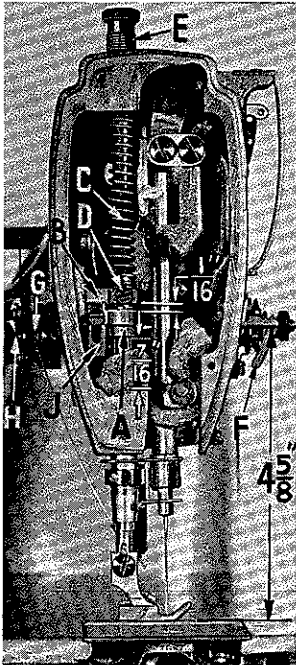
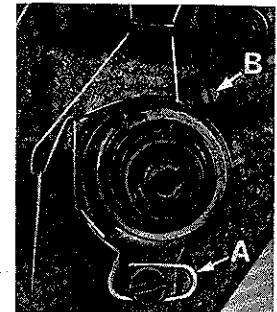

Fig. 16B
Fig. 18A
The presser bar connection (A, Fig. 16B) should be set so that it is about $\frac{7}{16}$ inch above the lower presser bar bushing (Fig. 16B). This is accomplished by tipping the machine back against the rest pin, loosening the lock nut (A, Fig. 15 - Cat. No. 126 M) and relocating the stop screw (B) on the lifter lever bell crank (C). By turning the stop screw to the right or left, the proper setting of the presser bar connection is accomplished. Tighten the lock nut (A) to lock the stop screw in place.
When locating the presser bar guide (B, Fig. 16B), the presser foot must rest directly against the throat plate with the feed dog in its lowest position. The guide is set properly when there is a $\frac{1}{16}$ inch space between guide (B) and presser bar connection (A, Fig. 16B).
Set the needle thread take up wire (F, Fig. 16B) so that the underside of the wire is $4 \frac{5}{8}$ inches above the throat plate.
1. Set the tension assembly so that the tension discs are centered on the check spring eyelet (A, Fig. 18A).
2. Tension release plunger pin (G, Fig. 16B) must touch tension release pin and the end of the tension release plunger pin must protrude a minimum of $\frac{1}{32}$ inch to a maximum of $\frac{1}{16}$ inch beyond the bushing. If adjustment is required move tension post assembly in or out by loosening the set screw located under machine arm and moving stop screw (B, Fig. 18A) as required. Tighten set screw.
3. Tension release solenoid is secured to a flat on plunger pin bushing with a set screw in bracket. Solenoid plunger pin (H) is to have approximately .005 inch clearance between it and the tension release plunger pin without thread in the tension disc.
4. The manual tension release cam (J, Fig. 16B) should be set so that it will not release thread tension when the presser foot is raised for back tacking.